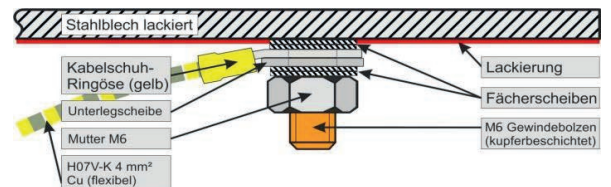

Figure 1
The earthing cable (A) must be connected as shown in Fig. 1. Put a serrated lock washer (D), then the ring eye of the earthing cable (A), a washer (C) and another serrated lock washer (D) onto the threaded bolt of the cabinet door. Then screw a nut (B) onto the threaded bolt and tighten it with a tool.